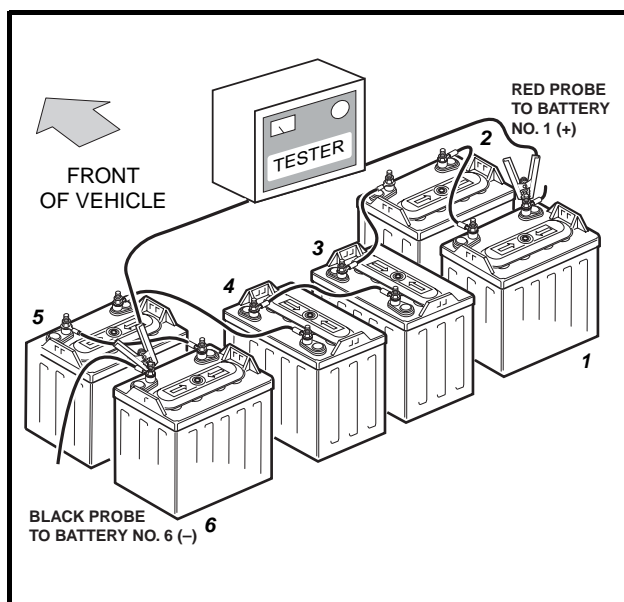

Figure 14-9 Battery Discharge Test
2. Connect the tester leads to the positive (+) post of battery no.1 and negative (-) post of battery no. 6 (Figure 14-9, Page 14-11).